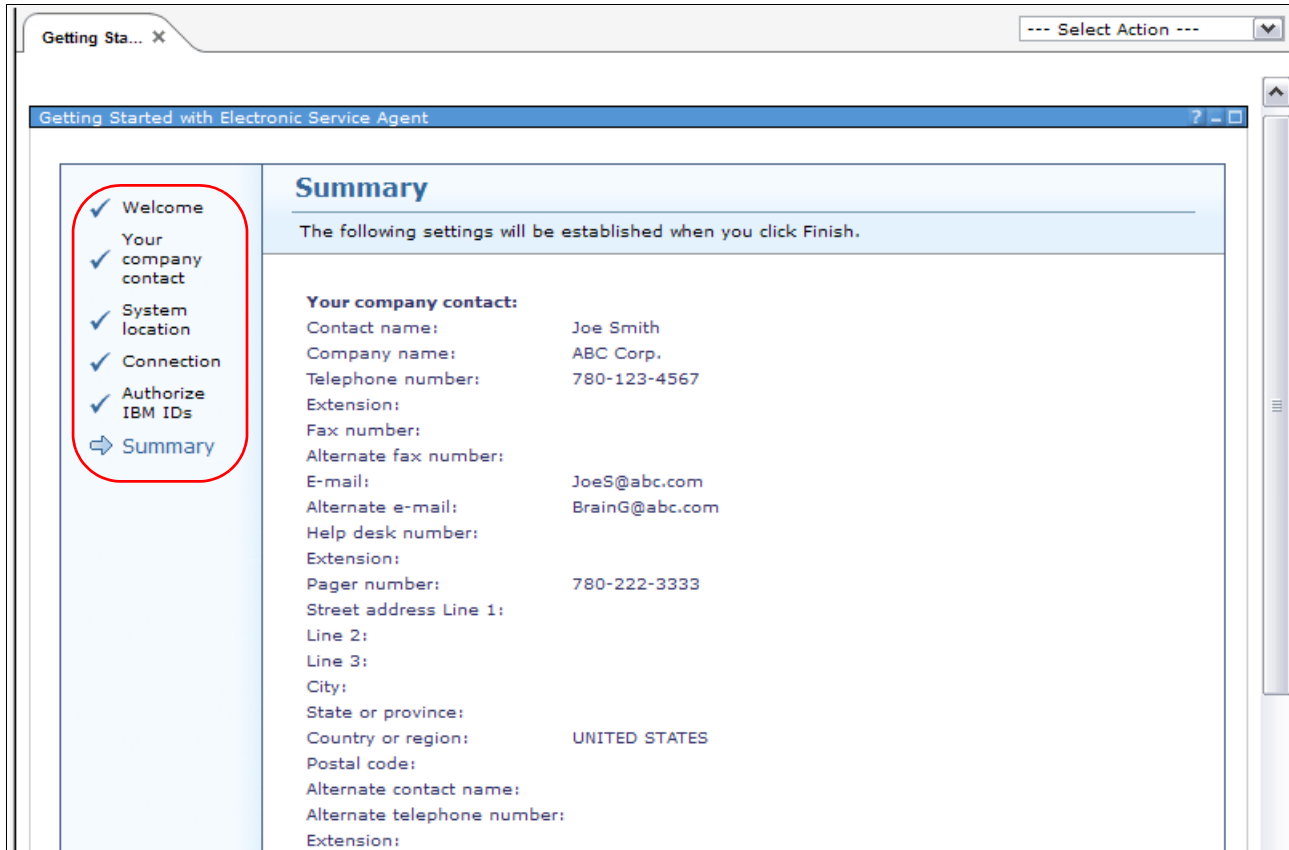

Figure 13-51 Summary panel for review
6. Click **Next**, Review the Summary page and click **Finish** if all information displayed is correct, as shown in Figure 13-51.